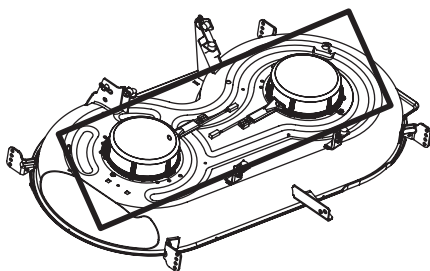

Figure 29
- Do not use water on any part of the tractor (Figure 29). Doing so can cause damage to the tractor's electrical components and motors. The use of compressed air and/or leaf blower or a brush, damp sponge or rag will help keep the tractor clean.